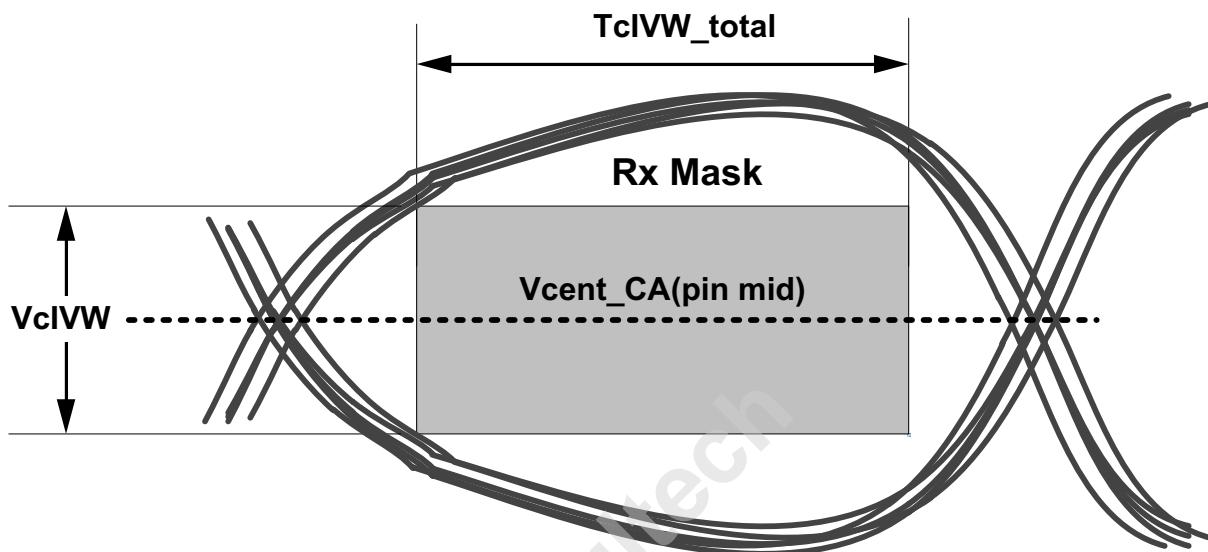

Figure 181 — CA Receiver (Rx) Mask
The command and address (CA) including CS input receiver compliance mask for voltage and timing is shown in Figure 181. All CA, CS signals apply the same compliance mask and operate in single data rate mode.